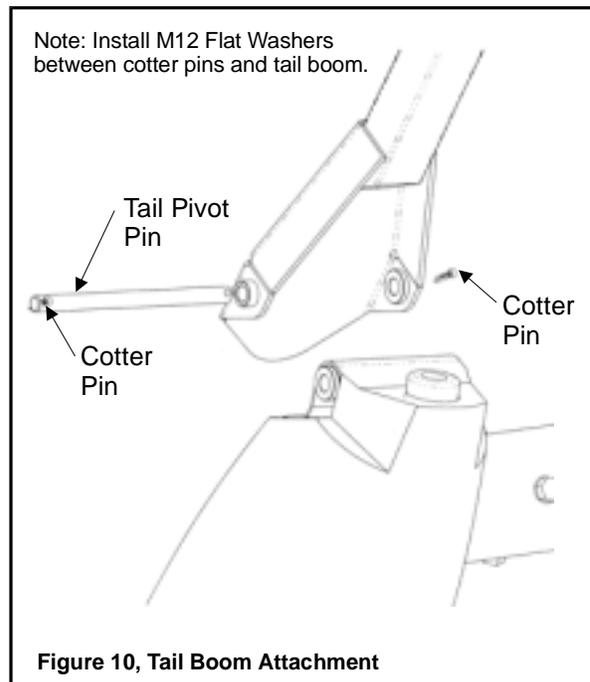

Figure 10, Tail Boom Attachment
ing of the bronze bushings. Secure the tail pivot pin with two cotter pins, as shown in Figure 10.
**Note:** Two M12 washers are provided to go on the Tail Pivot Pin between the cotter pins and the tail boom. They are not shown in the drawing for Figure 10, but must be installed. Failure to properly install and secure both cotter pins will lead to loss of the tail boom.